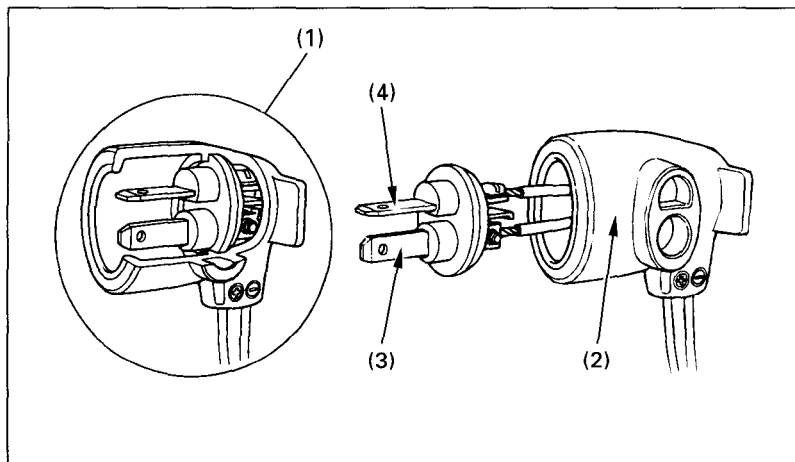

Fig. 2-25 (1) Special DC plug
2. Remove the plug cover (2) from the plug (Fig. 2-25).
3. Thread the positive and negative accessory leads through the plug cover as indicated in Fig. 2-25.
4. Attach the leads to the plug (1). Make sure to connect the positive lead (3) and the negative lead (4) to the proper terminals (Fig. 2-25).